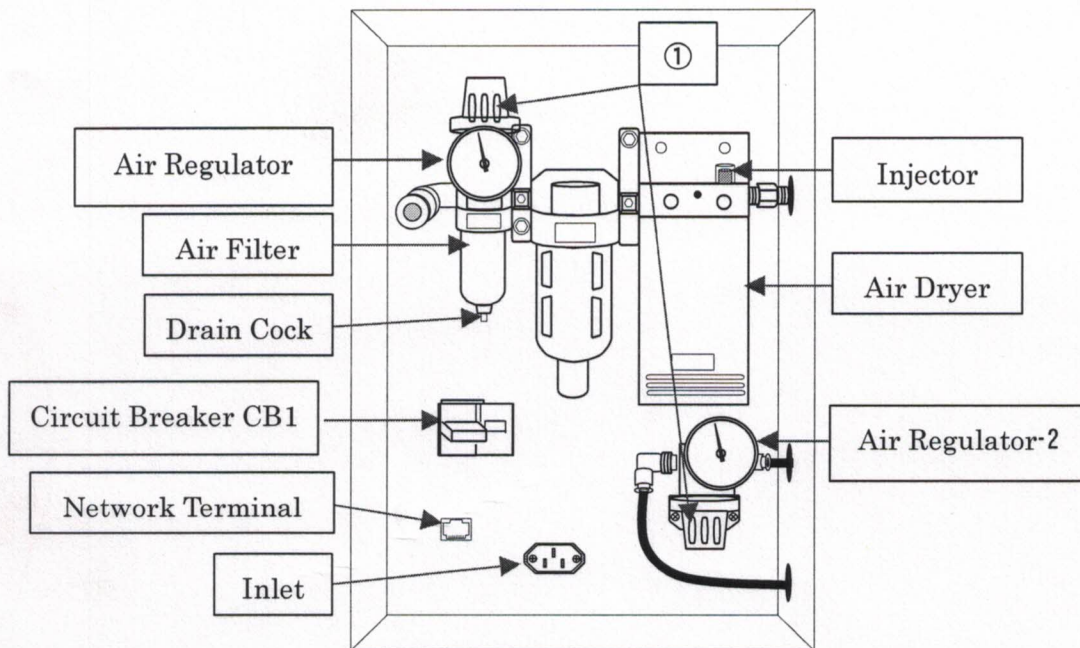

Figure 3.2.1 Back Panel for Single-Phase Supply on the left
3-phase supply uses 4pin 10A 440V power cord. The Single-phase and 3-phase power cords are connected to the Printer on the left and right back panel as shown in Fig. 3.2.1 and 3.2.2 respectively. Note that single-phase power cord is connected to the inlet on the Panel, while 3-phase power cord is passed from the bottom of the respective panel to install the connection.
With the help of coupler, hookup the air duct from a compressed Air Supply onto the inlet of the Air Regulator shown in Fig. 3.2.1. Pull up the cap at ① shown in the figure and rotate the cap left or right to adjust the pressure to 0.3MPa. After the adjustment, push the cap back to its locked position.